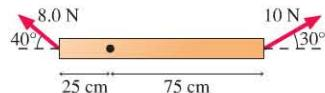

FIGURE P7.14
14. What is the net torque of the bar shown in Figure P7.14, about the axis indicated by the dot?